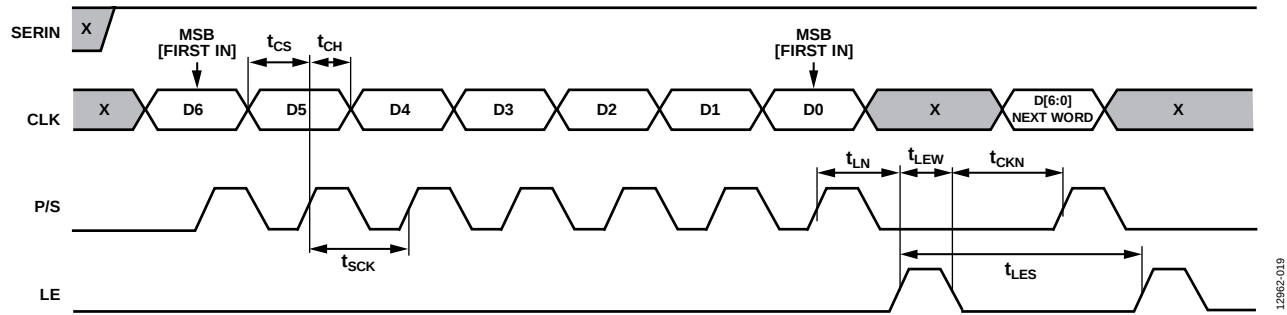

Figure 23. Serial Control Timing Diagram
The **HMC1119** utilizes a 3-wire serial to parallel (SPI) configuration, as shown in the serial mode timing diagram (see Figure 23): serial data input (SERIN), clock (CLK), and latch enable (LE). The serial control interface activates when the P/S pin is set to high.